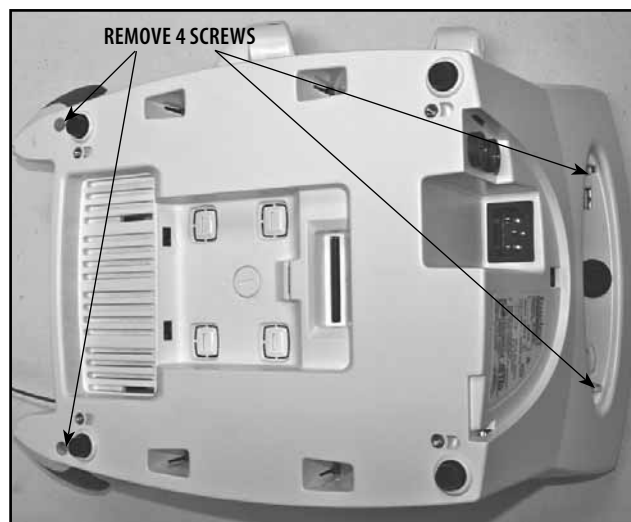

FIGURE 6.21
3. Remove the four mounting screws securing the top and bottom together. See Figure 6.21.